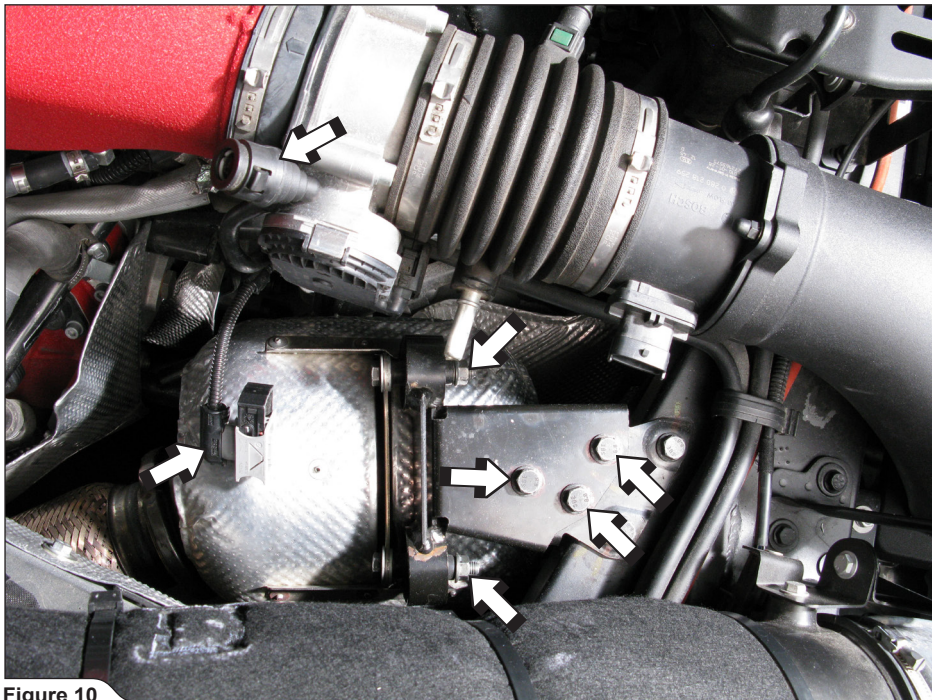

Figure 10
9. **For Slip-On and optional Link Pipes:** disconnect the marked vacuum hose and air mass meter connector and untighten marked catalytic converter's heat shield bolts on both sides of the engine (**Figure 10**).